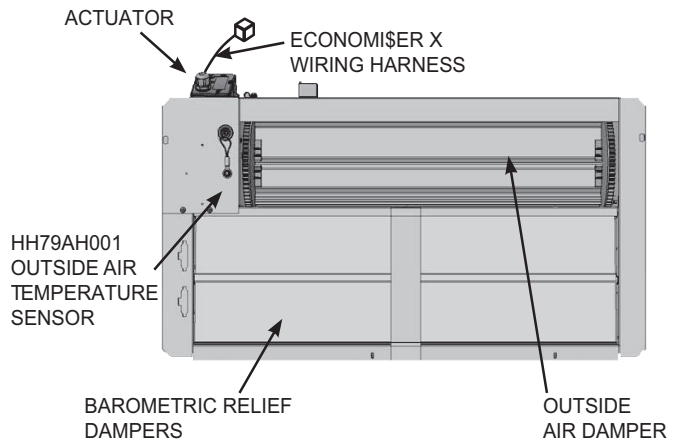
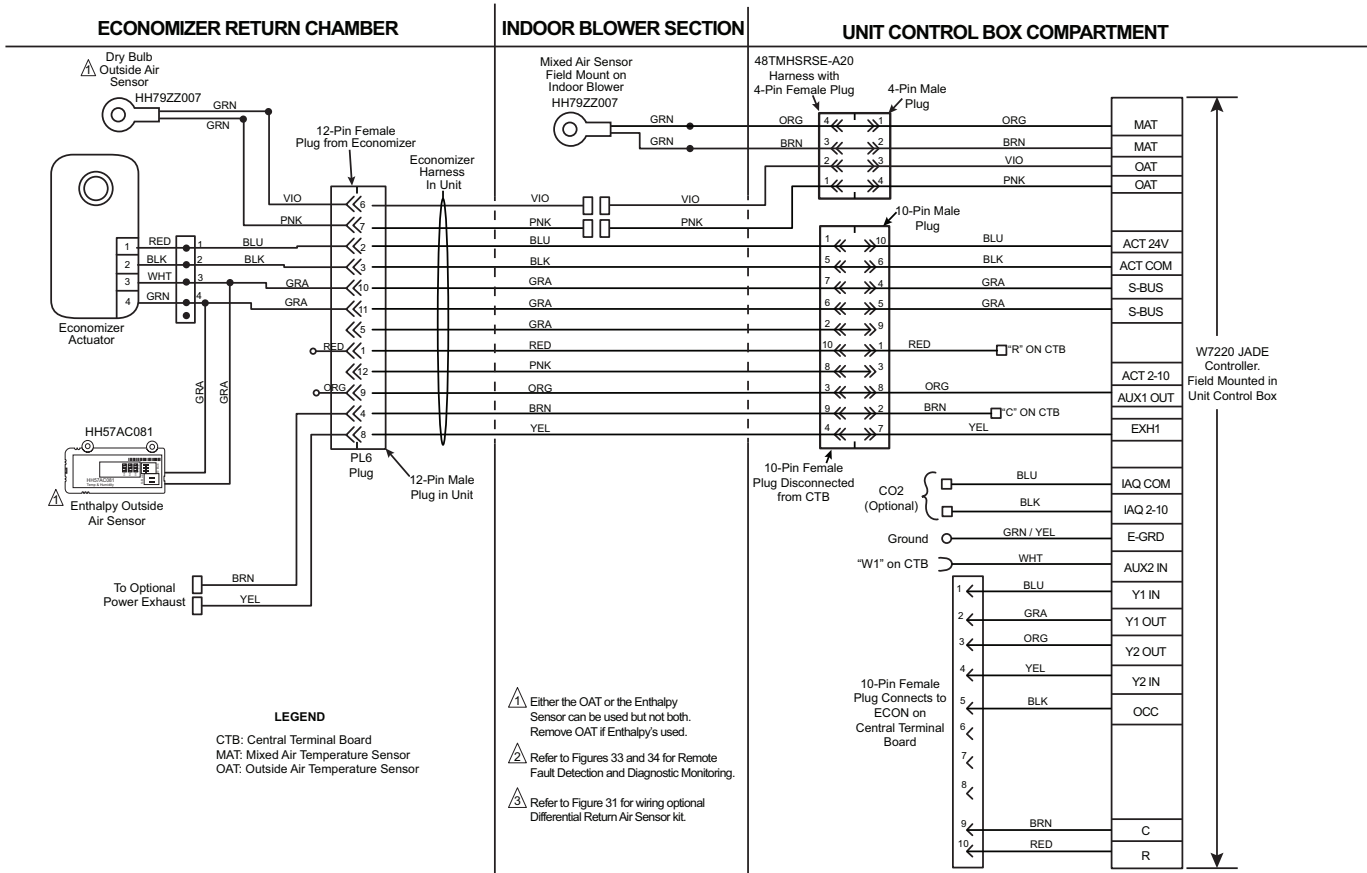

Fig. 1 — EconoMi\$er X Component Locations (CRECOMZR076A00 Shown)
Fig. 23 — Typical EconoMiSer X Wiring Diagram for 1 or 2 Speed Units (Not for 48/50LC 07-12 Units)
See Fig. 1 for component locations.
7. If the EconoMiSer X system will be operating with an enthalpy outside air sensor, remove the factory installed HH79ZZ007 dry bulb sensor from the front face of the economizer (see Fig. 1), and install the accessory enthalpy sensor HH57AC081 in the same location. Connect the (2) wire gray harness with plug from the EconoMiSer X assembly to the enthalpy sensor. See wiring diagram Fig. 23 and 28. Refer to “Installing Optional HH57AC081 Outside Air Enthalpy Sensor” section for more details on enthalpy settings.
When using the HH57AC081 (Honeywell C7400S) enthalpy sensor (see Fig. 30) for outside air changeover, the existing HH79ZZ007 dry bulb sensor must be removed. The enthalpy sensor will be mounted in the same location as the dry bulb sensor (see Fig. 1). When the enthalpy sensor's OA temperature, enthalpy and dew point are below the respective setpoints, the outside air can be used for free-cooling. When any of these is above the setpoint, free-cooling will not be available. Figure 29 shows the enthalpy boundaries in the W7220 controller. There are (5) enthalpy boundaries (setpoints ES1 thru ES5), which are defined by dry bulb temperature, enthalpy, and dew point. ES3 is the default setting. Table 7 shows the High Limit Curves for each setting.
The (2) gray wires with a plug from the EconoMiSer X harness in the return chamber plug directly into the HH57AC081 enthalpy sensor. See Fig. 23 and 28 for wiring.
Refer to EconoMiSer X wiring diagram (Fig. 23 and 28) and DCV instructions if demand controlled ventilation (CO₂ sensor) is used. The CO₂ sensor will wire into the blue and black connections at the controller as shown in Fig. 23, 28, and 32. If a field-installed CO₂ sensor is connected to the EconoMiSer X controller, a demand controlled ventilation strategy will operate automatically. As the CO₂ level in the space increases above the setpoint (on the EconoMiSer X controller), the minimum position of the dampers will be increased proportionally, until the Maximum Ventilation setting is reached. As the space CO₂ level decreases because of the increase in fresh air, the outdoor damper will follow the higher demand condition from the DCV mode or from the free cooling mode.